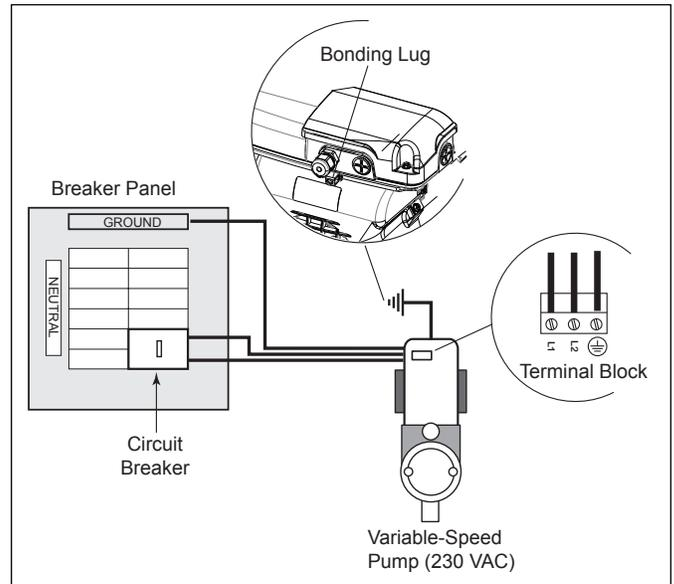

Figure 3. Bonding the Motor, Regal Beloit Motor
1. The motor frame must be bonded to a reliable grounding point using a solid copper conductor, No. 8 AWG or larger. In Canada, No. 6 AWG or larger must be used. If the pump is installed within five (5) feet (1.5 m) of the inside walls of the swimming pool, spa, or hot tub, the motor frame must be bonded to all metal parts of the swimming pool, spa, or hot tub structure and to all electrical equipment, metal conduit, and metal piping within five (5) feet (1.5 m) of the inside walls of the swimming pool, spa, or hot tub.
2. Bond the motor using the provided external lug. See Figure 3.